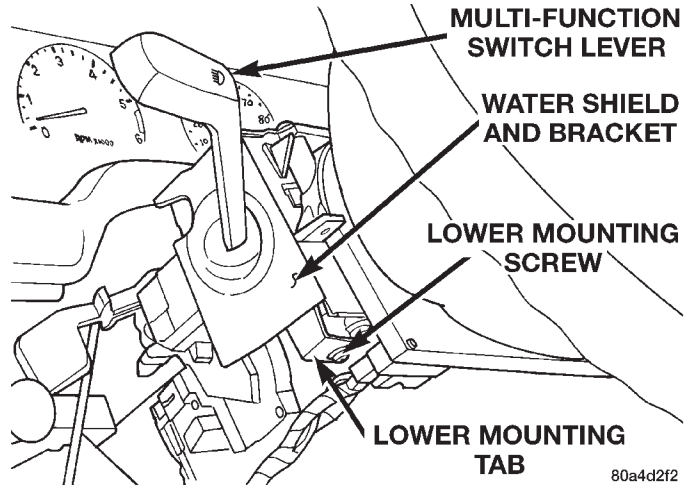

Fig. 15 Water Shield Lower Screw Remove/Install
(7) Remove the one screw located below the multi-function switch lever that secures the switch water shield and bracket to the steering column (Fig. 15).